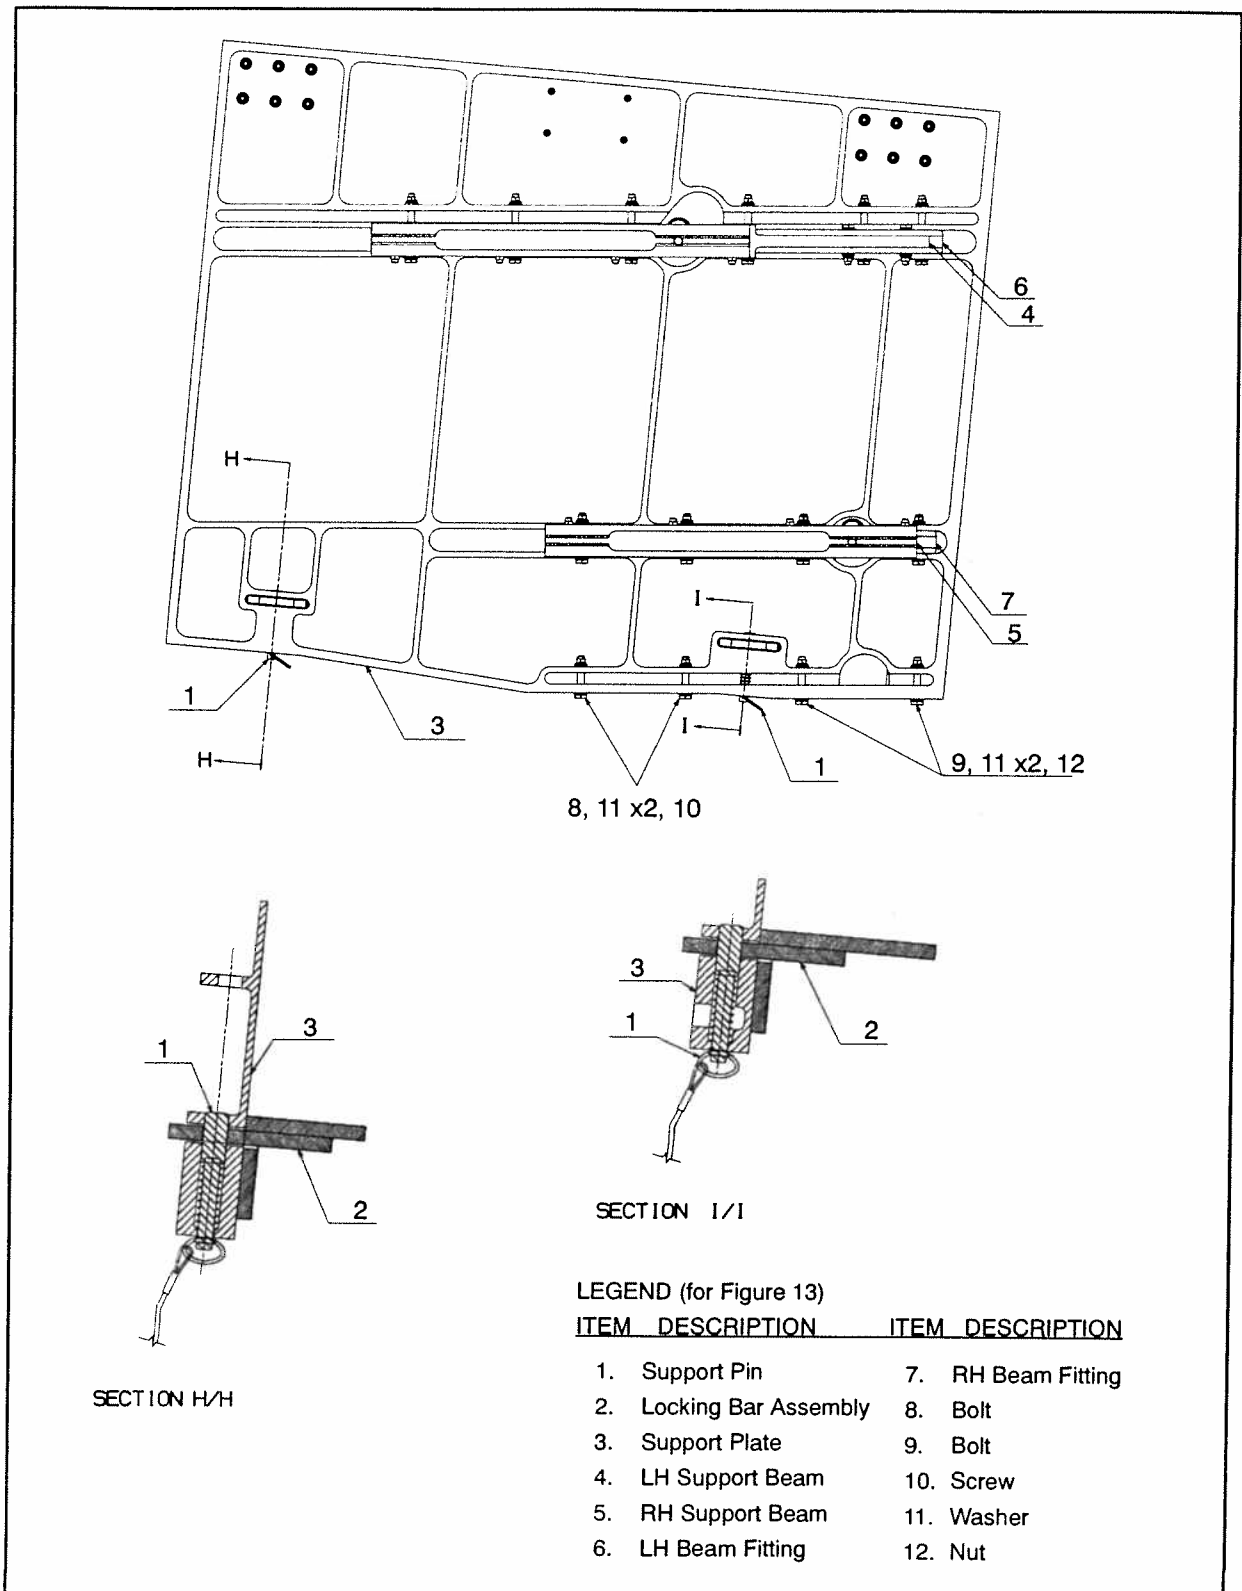
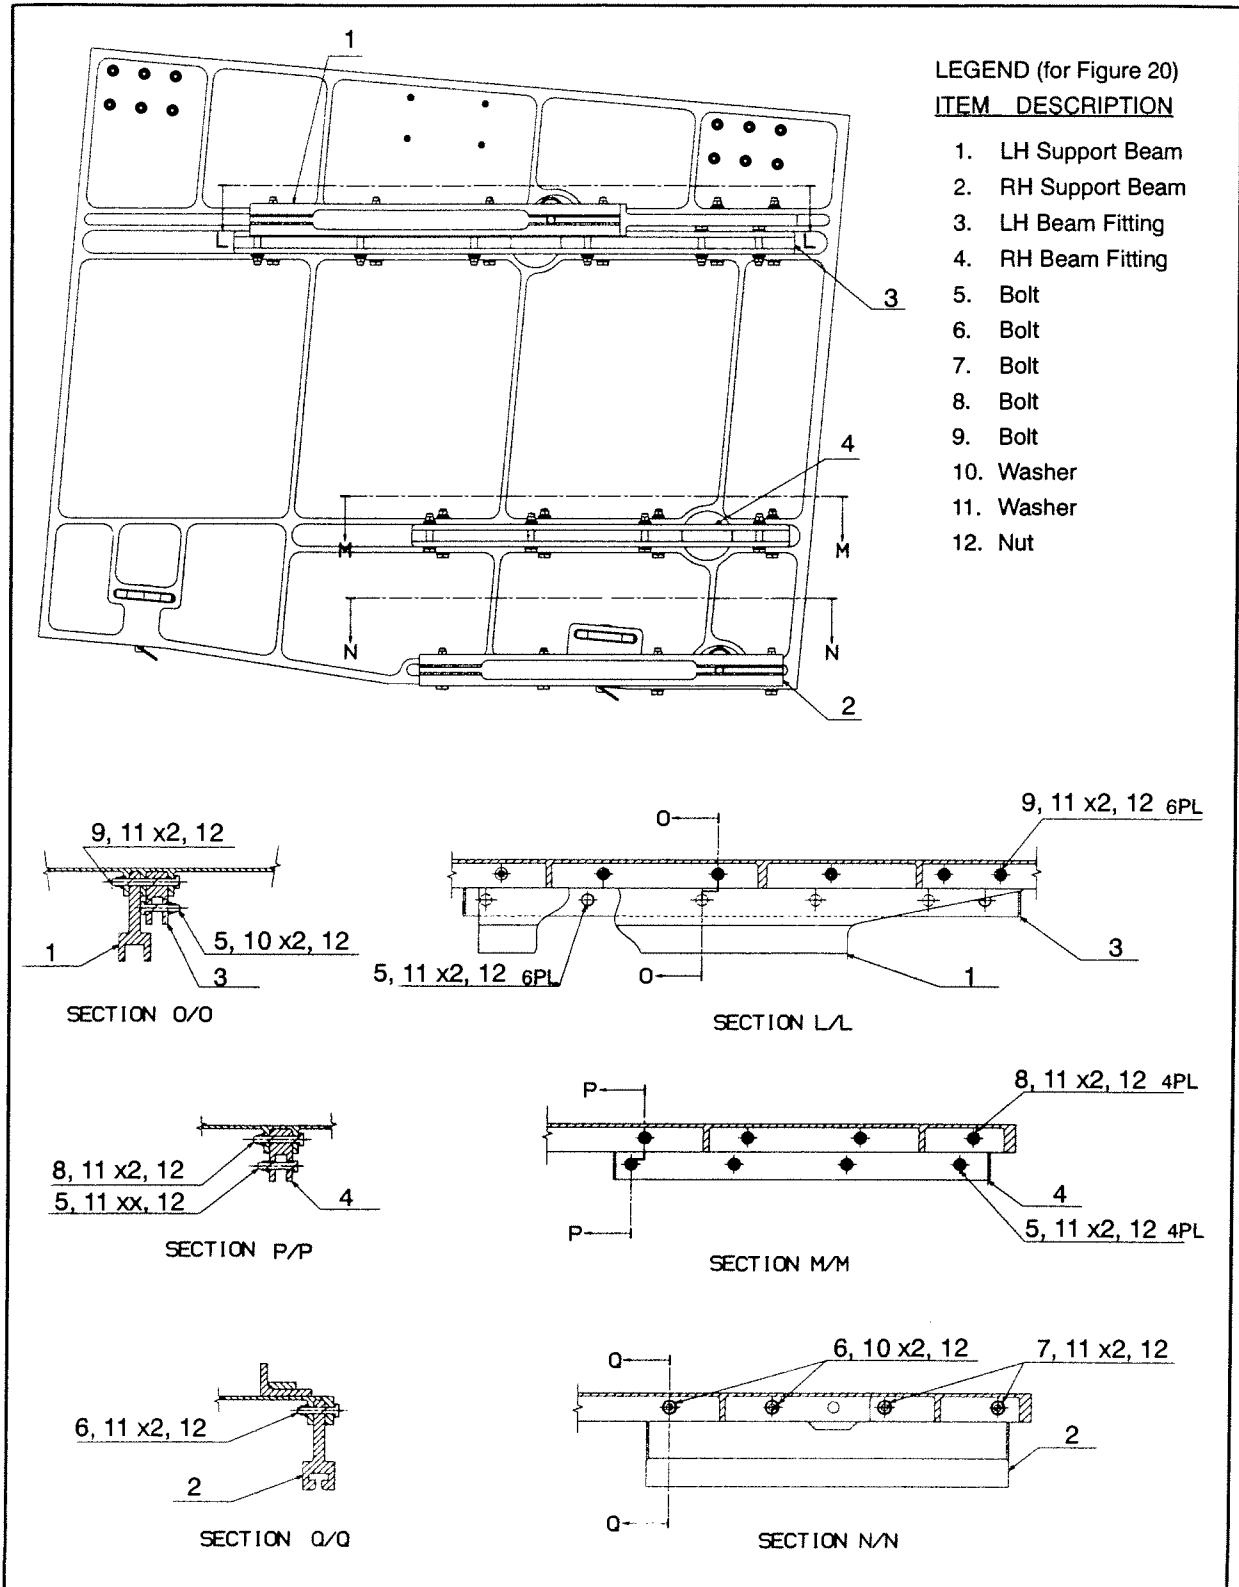

Figure 13 Locking Bar Assembly Details, 7 Place Interior
Figure 20 LH and RH Support Beam Details, 8 Place Interior
- 4) Install the washers (8) and nuts (9) (6 places).
- 5) Remove the nuts (12, Figure 20, Section L/L), washers (11) and bolts (5) (6 places) from the LH beam fitting (3).
- 6) Position the LH support beam (1, Figure 13, Section C/C) in the slot of the LH beam fitting (3).
- 7) Install the bolts (5) and washers (8) (6 places) through the LH beam fitting (3) and the LH support beam (1).
- 8) Install the washers (8) and nuts (9) (6 places).
- 9) Remove the nuts (12, Figure 20, Section N/N) and washers (11) (4 places) and bolts (8) (2 places) and bolts (9) (2 places) that secure the RH support beam (2) to the RH rail location.
- 10) Install the bolts (6, Figure 13) (2 places), bolts (7) (2 places), washers (8) and nuts (9) (4 places) in the RH rail location for storage.
- 11) Remove the nuts (12, Figure 20, Section M/M), washers (10) and bolts (5) (4 places) from the RH beam fitting (4).